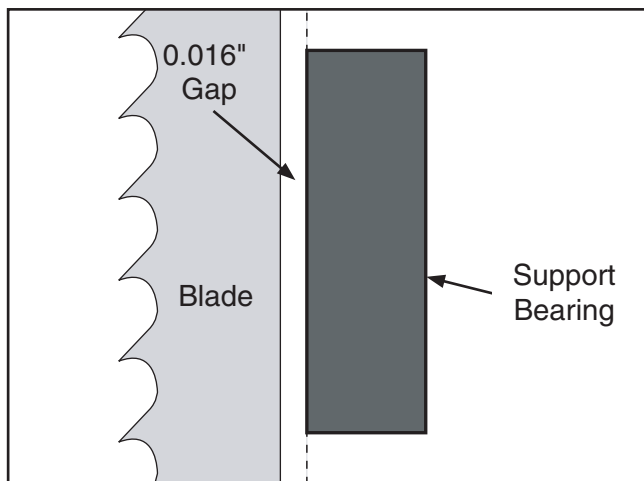

Figure 30. Blade should be aligned approximately 0.016" away from the bearing edge.
5. Place a 0.016" feeler gauge between the support bearing and the blade, and position the bearing 0.016" away from the back of the blade as illustrated in **Figure 30**.
5. Place a 0.016" feeler gauge between the support bearing and the blade, and position the bearing 0.016" away from the back of the blade as illustrated in **Figure 30** or use a dollar bill.